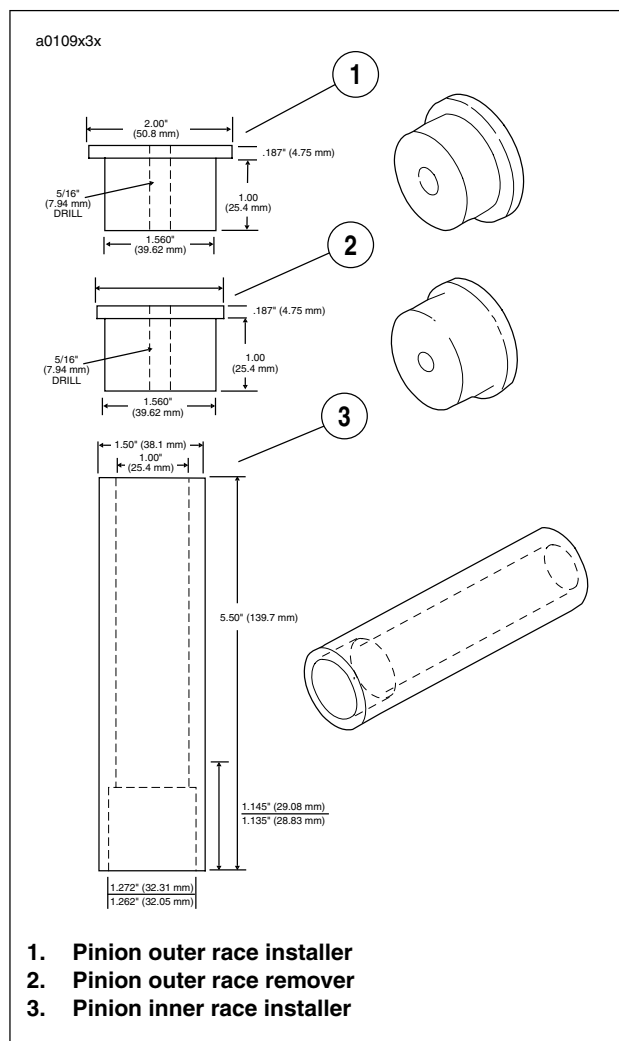

Figure 3-145. Pinion Shaft Bearing Tools
See Figure 3-145. Dimensions are shown for fabrication of tools used in pressing the outer race into or out of crankcase.
- For necessary dimensions for constructing a press-on tool for the pinion bearing inner race see Figure 3-145.